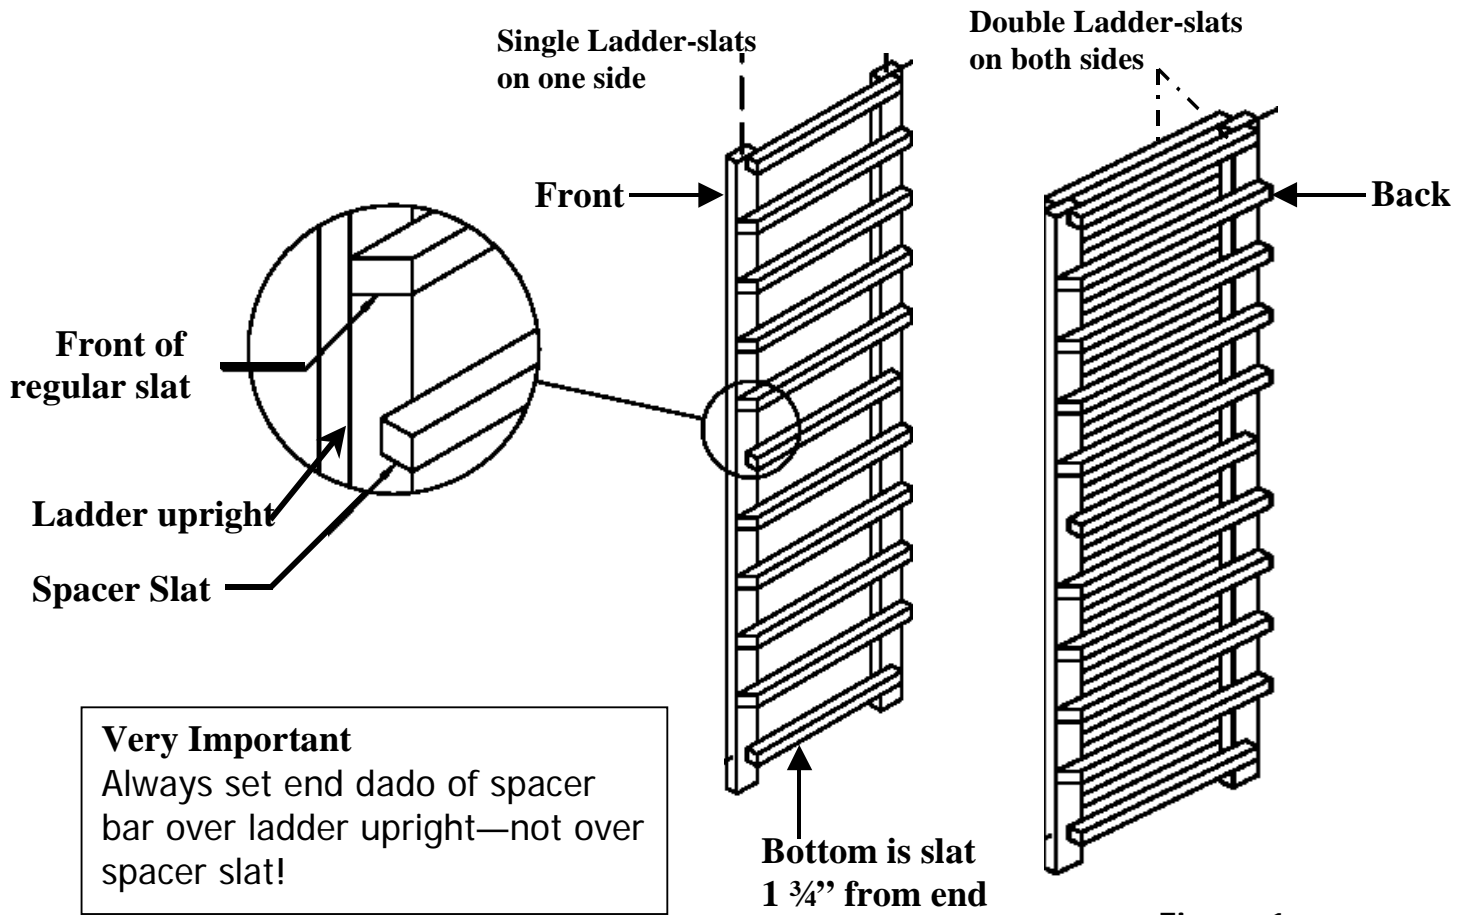

Figure 1
Individual racks consist of vertical ladders and horizontal spacer bars; ladders can have slats on one side of the uprights (single ladder) or on both sides (double ladders). Singles can be a left or right side and all have a distinctive top and bottom as well as back and front. The ladder bottoms have slats starting 2 1/2" in from the ends. The rack front can be distinguished by the angled slats it has in most locations, except a few that have flat faces and are set back from the uprights by 3/4". The back slats all have flat faces and are flush with the upright (except the few locations set back 3/4"). See **figure 1** on page 3.
- F. Locate the **single** ladders set aside and set them into the two remaining open dado locations. Insure that left and right are correctly oriented with slats facing inward and ladders and tops and bottoms matching those previously installed. Set the end dado against the front upright ladder at spacer slat location and nail through the dado and into the upright. Please see important note in **figure 1**.
- H. Take the short *single* ladder and face it with slats facing toward other ladders. Attach ladder upright to end dado with a nail. Insure dado is set over upright and not spacer slat. See **Figure 1** page 3.